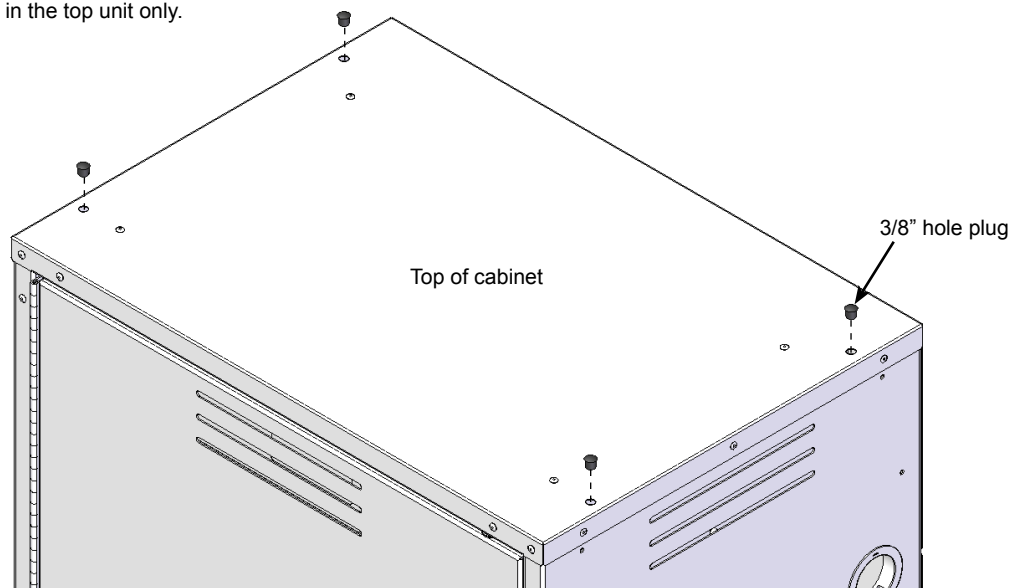

Figure 8
1. Install the (4) 3/8" hole plugs into the top of the cabinet. **Figure 8.**